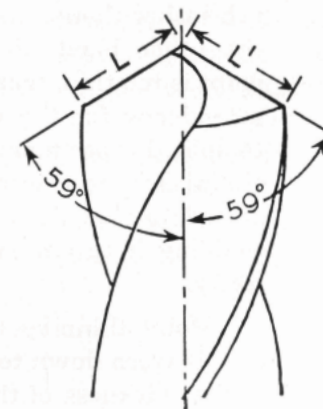

Figure 9—Both lips must be at same lip angle and equal length ($L = L'$)
2. The two cutting lips must be inclined at the same angle with the axis of the drill (figure 9) and must be of equal length.